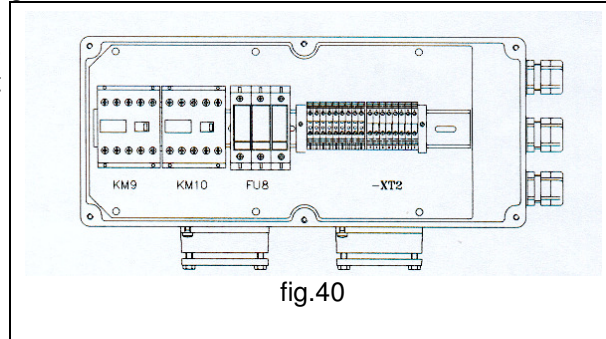

fig.40
- The wiring diagrams are supplied inside the electrical control panel for the rotating movement (fig.40).
- The wiring diagrams are supplied inside the electrical control panel for the rotating movement (fig.40 bis).
fig.40 bis